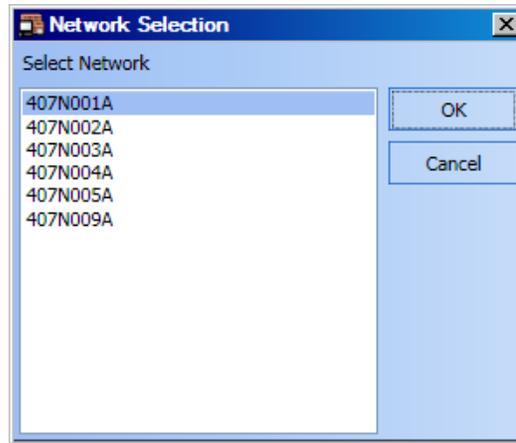

Figure 3-4 Network Selection Dialog
4. The **Network Selection** dialog box appears (as shown in Figure 3-4) with a list of configured sites. Select the site from which you want to load the job and then click on **OK**. The **Network Selection** dialog closes.